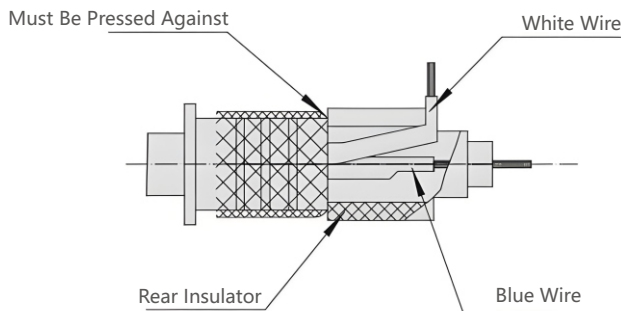

Figure3.9
- ④ As shown in Figure 3.9, bend the white wire outward and place it into the slot of the insulator. Pass the blue wire through the insulator. The tail of the insulator must be pressed against the shielding layer.